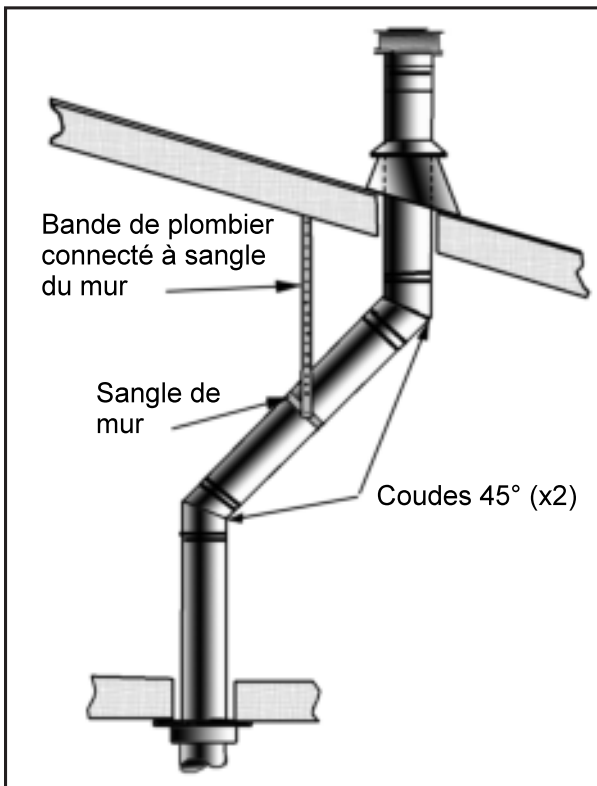
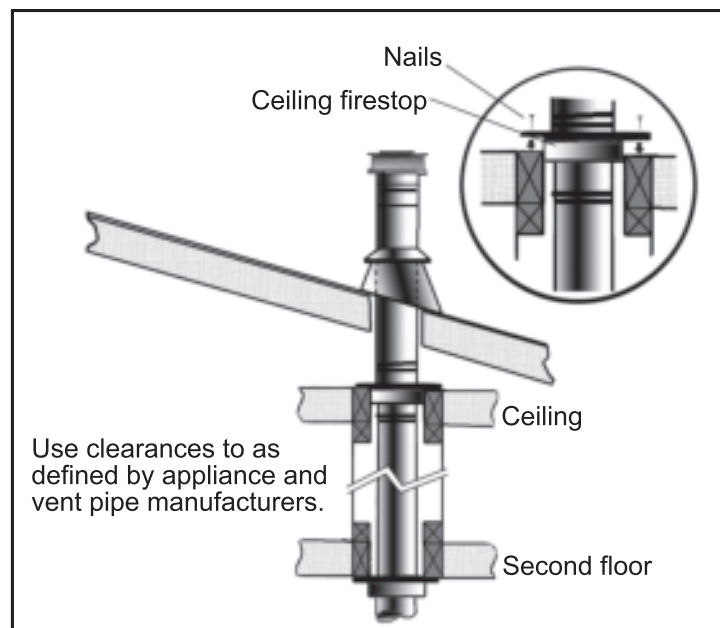
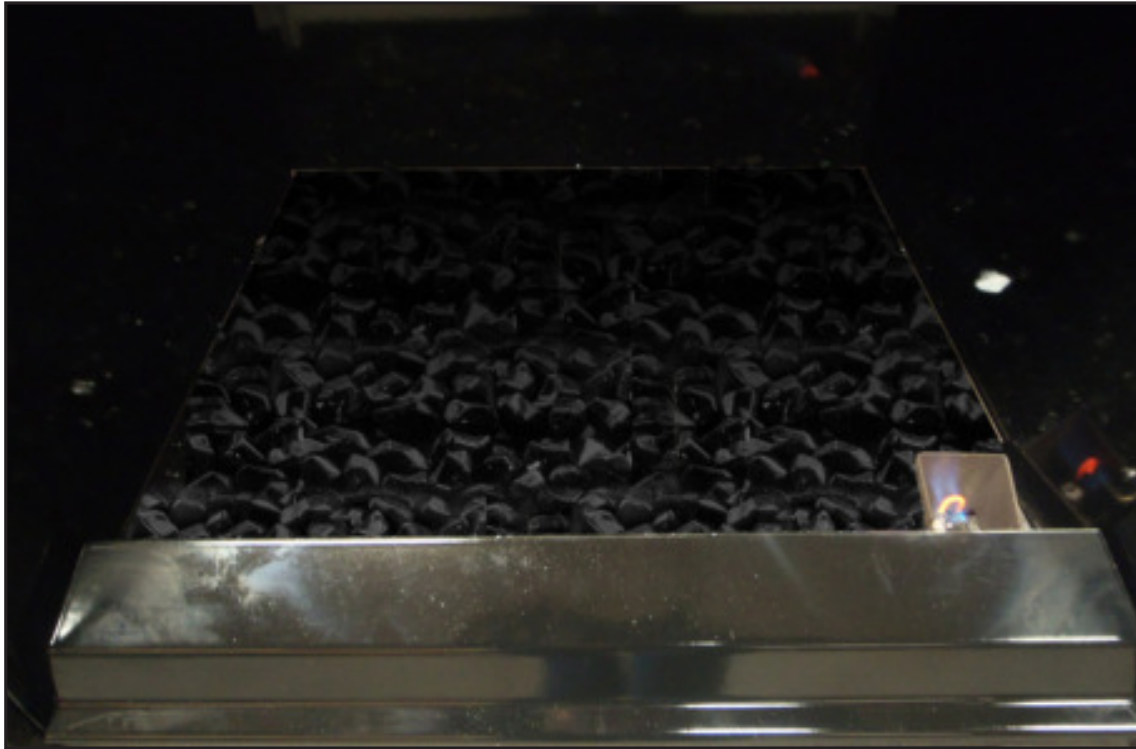

Figure 35: Use of Wall Straps.
Figure 36: Multi-Story Vent Pipe Installation.
Figure 41. Burner Tray with glass installed
- (1)** If an offset is necessary in the attic to avoid obstructions, it is important to support the vent pipe every 3 feet (914 mm), to avoid excessive stress on the elbows, and possible separation. Wall straps are available for this purpose (see Figure 35).
- (2)** When ever possible, use 45° degree elbows instead of 90° degree elbows. The 45° degree elbow offers less restriction to the flow of flue gases and intake air.
- (3)** For multi story installations; a ceiling firestop is required at the second floor, and any subsequent floors (see Figure 36). The opening should be framed to 10" (254 mm) x 10" (254 mm) inside dimensions, in the same manner as shown in Figure 41.
- (4)** Any occupied areas above the first floor, including